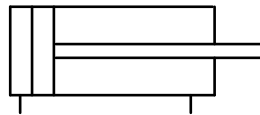

FIG 2.
D. The symbol for a double acting cylinder is shown in Fig 2.